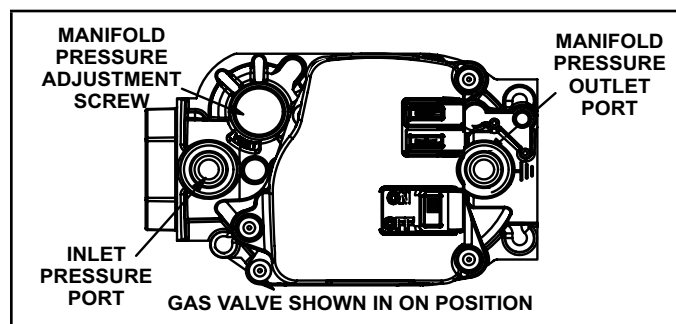

FIGURE 58
Gas Valve Operation (FIGURE 58)
- 6 - Move gas valve switch to **OFF**. See Figure 58.
- 8 - Move gas valve switch to ON. See FIGURE 58.
When testing supply gas pressure, use the 1/8" N.P.T. plugged tap located on the gas valve to facilitate test gauge connection. See FIGURE 58. Check gas line pressure with unit firing at maximum rate. Low pressure may result in erratic operation or underfire. High pressure can result in permanent damage to gas valve or overfire.